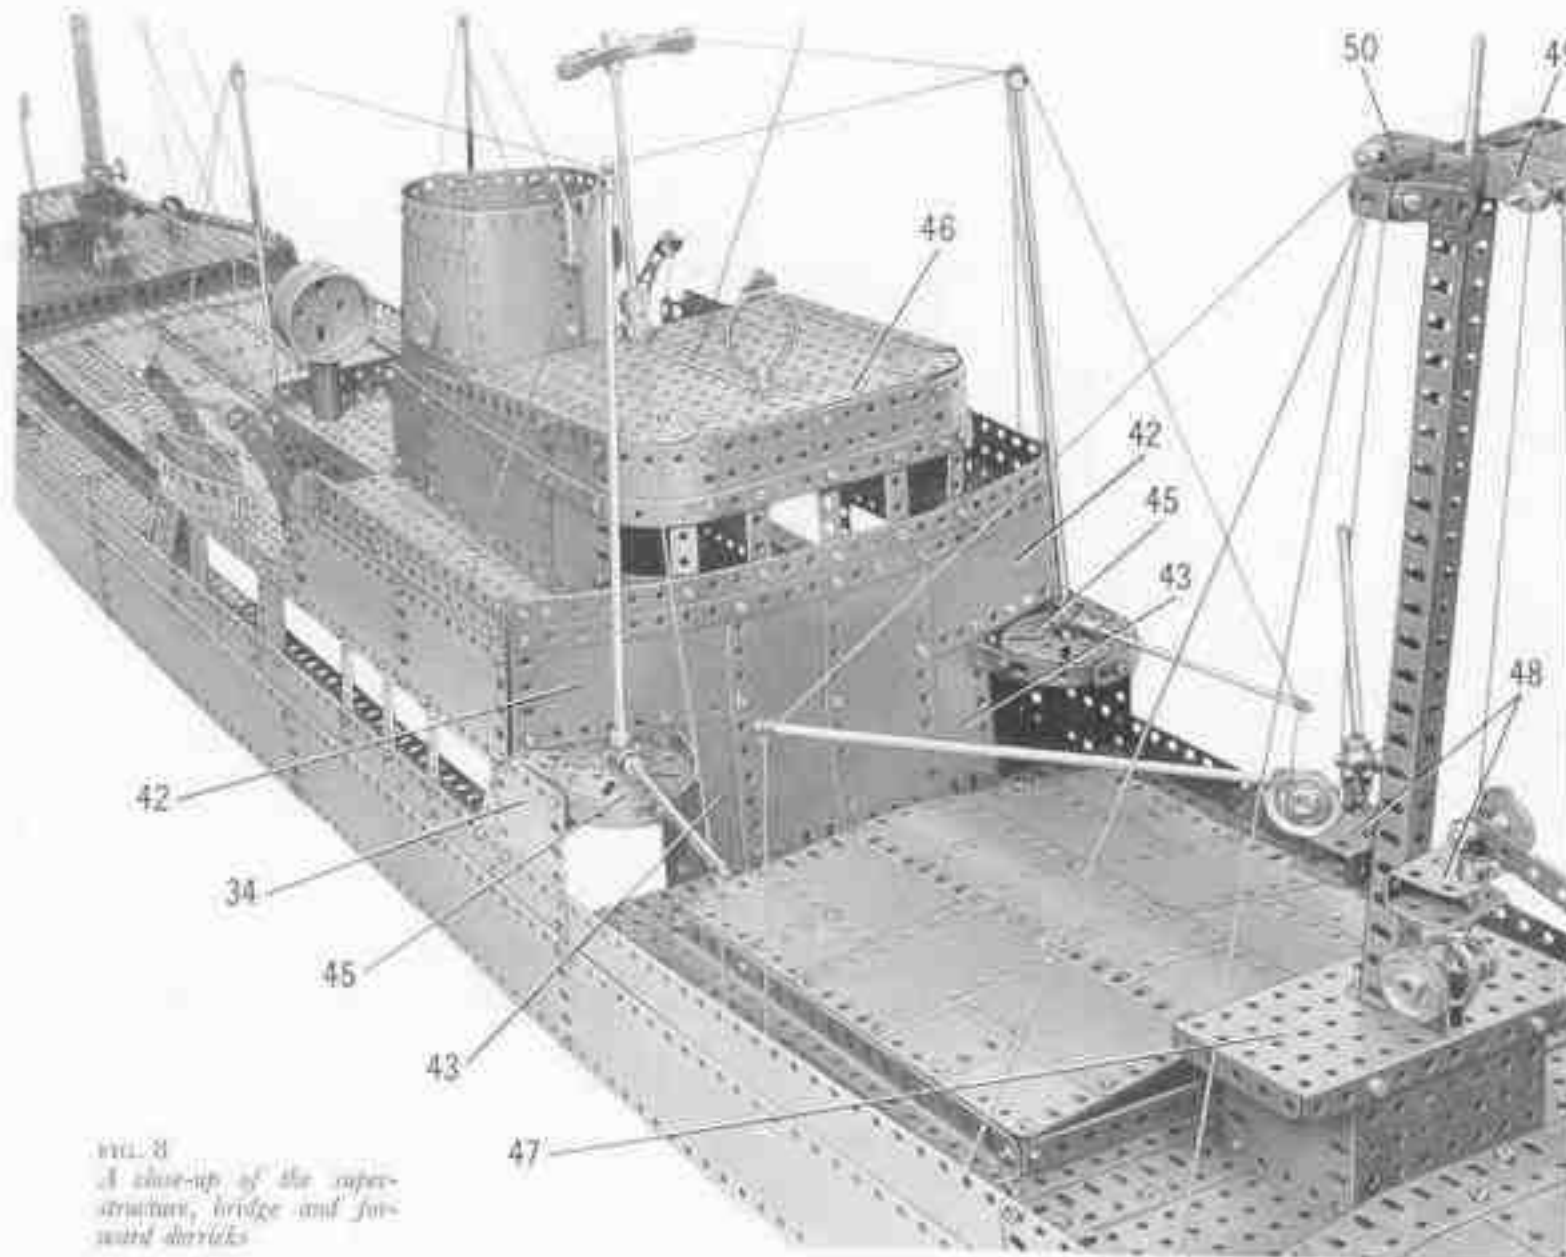

FIG. 8
The front of the superstructure is filled in by two vertical  $5\frac{1}{2}$ "  $\times$   $2\frac{1}{2}$ " Flexible Plates at the centre, and a  $4\frac{1}{2}$ "  $\times$   $2\frac{1}{2}$ " Flexible Plate (42) and a  $3\frac{1}{2}$ "  $\times$   $2\frac{1}{2}$ " Flexible Plate (43) on each side (Fig. 8). A  $5\frac{1}{2}$ " Strip (44) is bolted to the outer edge of each of the Plates (42), and a  $3\frac{1}{2}$ " Strip is fixed to the outer edge of each Plate (43). The Plates are edged at the front by two  $12\frac{1}{2}$ " Strips as seen in Fig. 8, and on the inside by a  $12\frac{1}{2}$ " Strip placed one hole below the lower edges of the Plates (42) and bolted to the Strips (44).
Flat Plates, a  $5\frac{1}{2}'' \times 2\frac{1}{2}''$  Flanged Plate (46) (Fig. 8), and two Wheel Discs. The back is filled in by a  $3\frac{1}{2}'' \times 2\frac{1}{2}''$  Flanged Plate bolted to each side and connected at the centre by a  $2\frac{1}{2}'' \times 2\frac{1}{2}''$  Flexible Plate. A  $7\frac{1}{2}''$  Flat Girder is attached to the roof and to the back by Obtuse Angle Brackets.
Two  $3\frac{1}{2}'' \times 2\frac{1}{2}''$  Flanged Plates are connected at their ends by  $2\frac{1}{2}'' \times 2\frac{1}{2}''$  Flexible Plates and are bolted to a  $5\frac{1}{2}'' \times 2\frac{1}{2}''$  Flanged Plate (47) (Fig. 8). This structure is attached to the deck by Angle Brackets. The foremast is formed by two  $12\frac{1}{2}''$  Angle Girders bolted to Angle Brackets fixed to the Flanged Plate (47). The top ends of the Girders are bolted to the lugs of a large Fork Piece, which is placed with its bow downward, and supports a  $6\frac{1}{2}''$  Rod. To each Angle Girder is fixed a Channel Bearing (48). Two  $3\frac{1}{2}''$  Strips and four  $1\frac{1}{2}''$  Strips connected by Double Brackets are fixed to the top of the Angle Girders, and a Stepped Bent Strip (49) and a Single Bent Strip (50) are attached to them (Fig. 8).